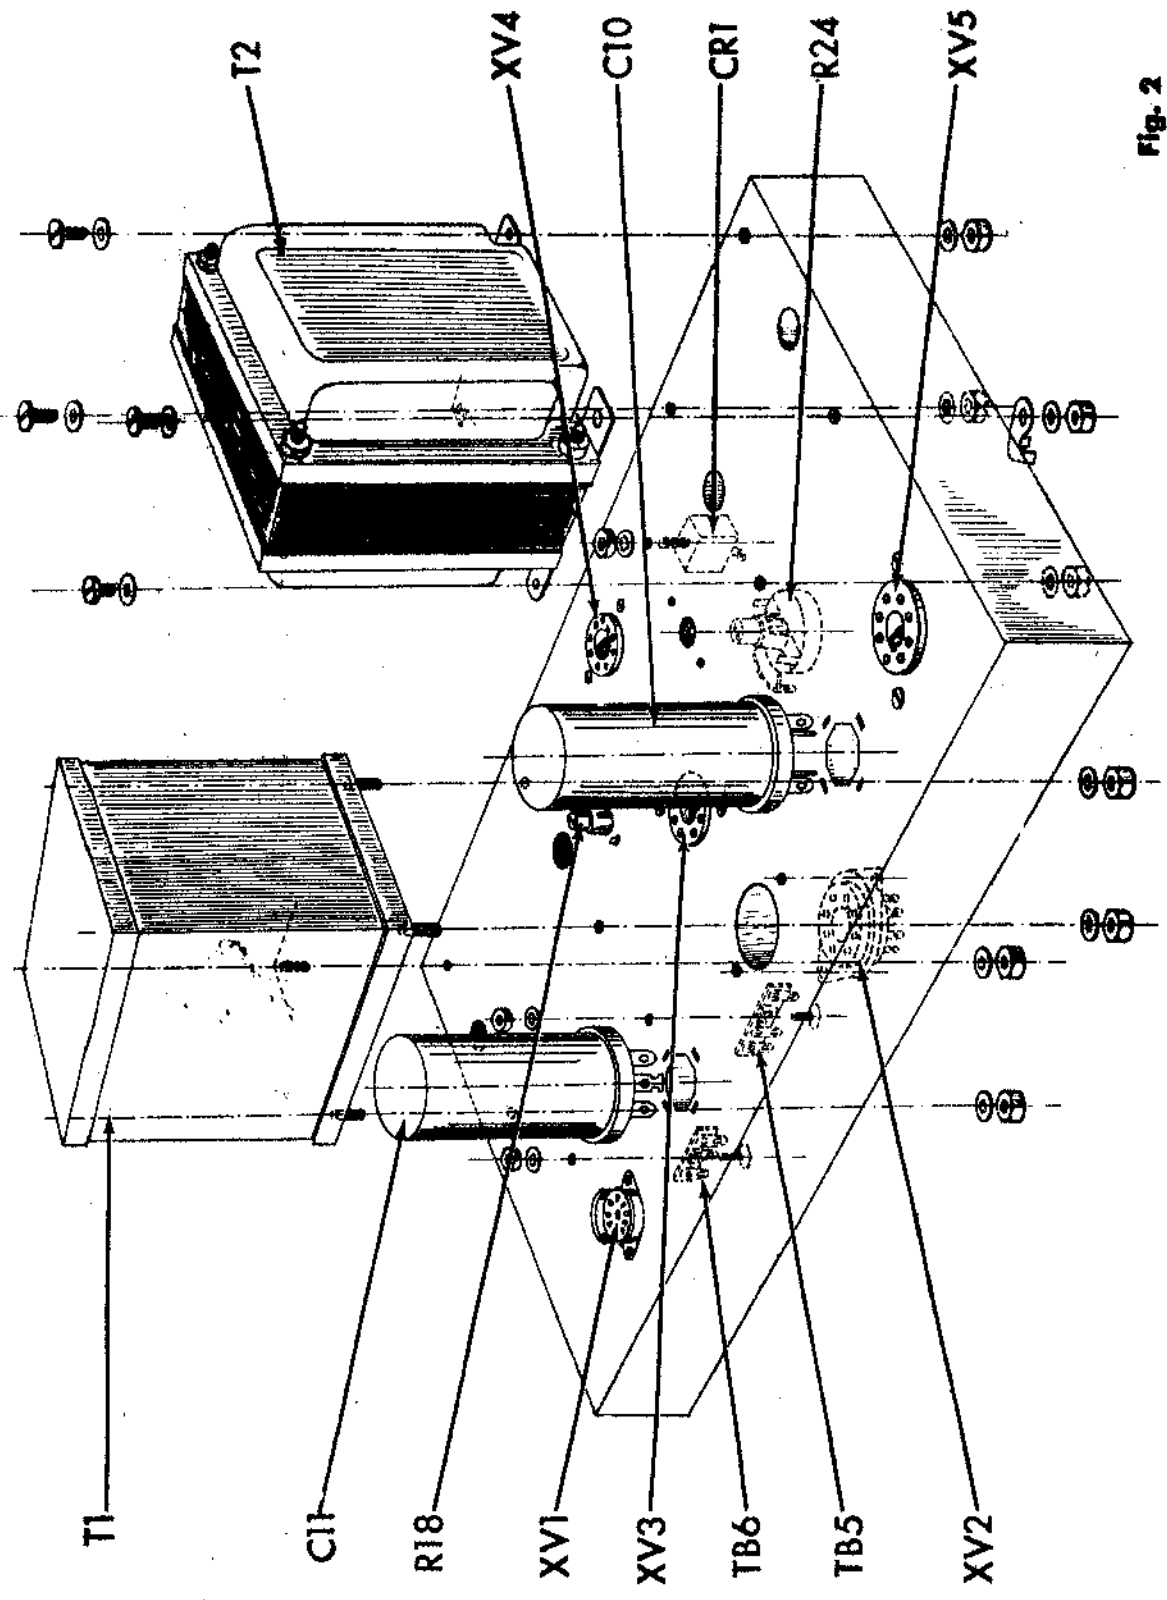
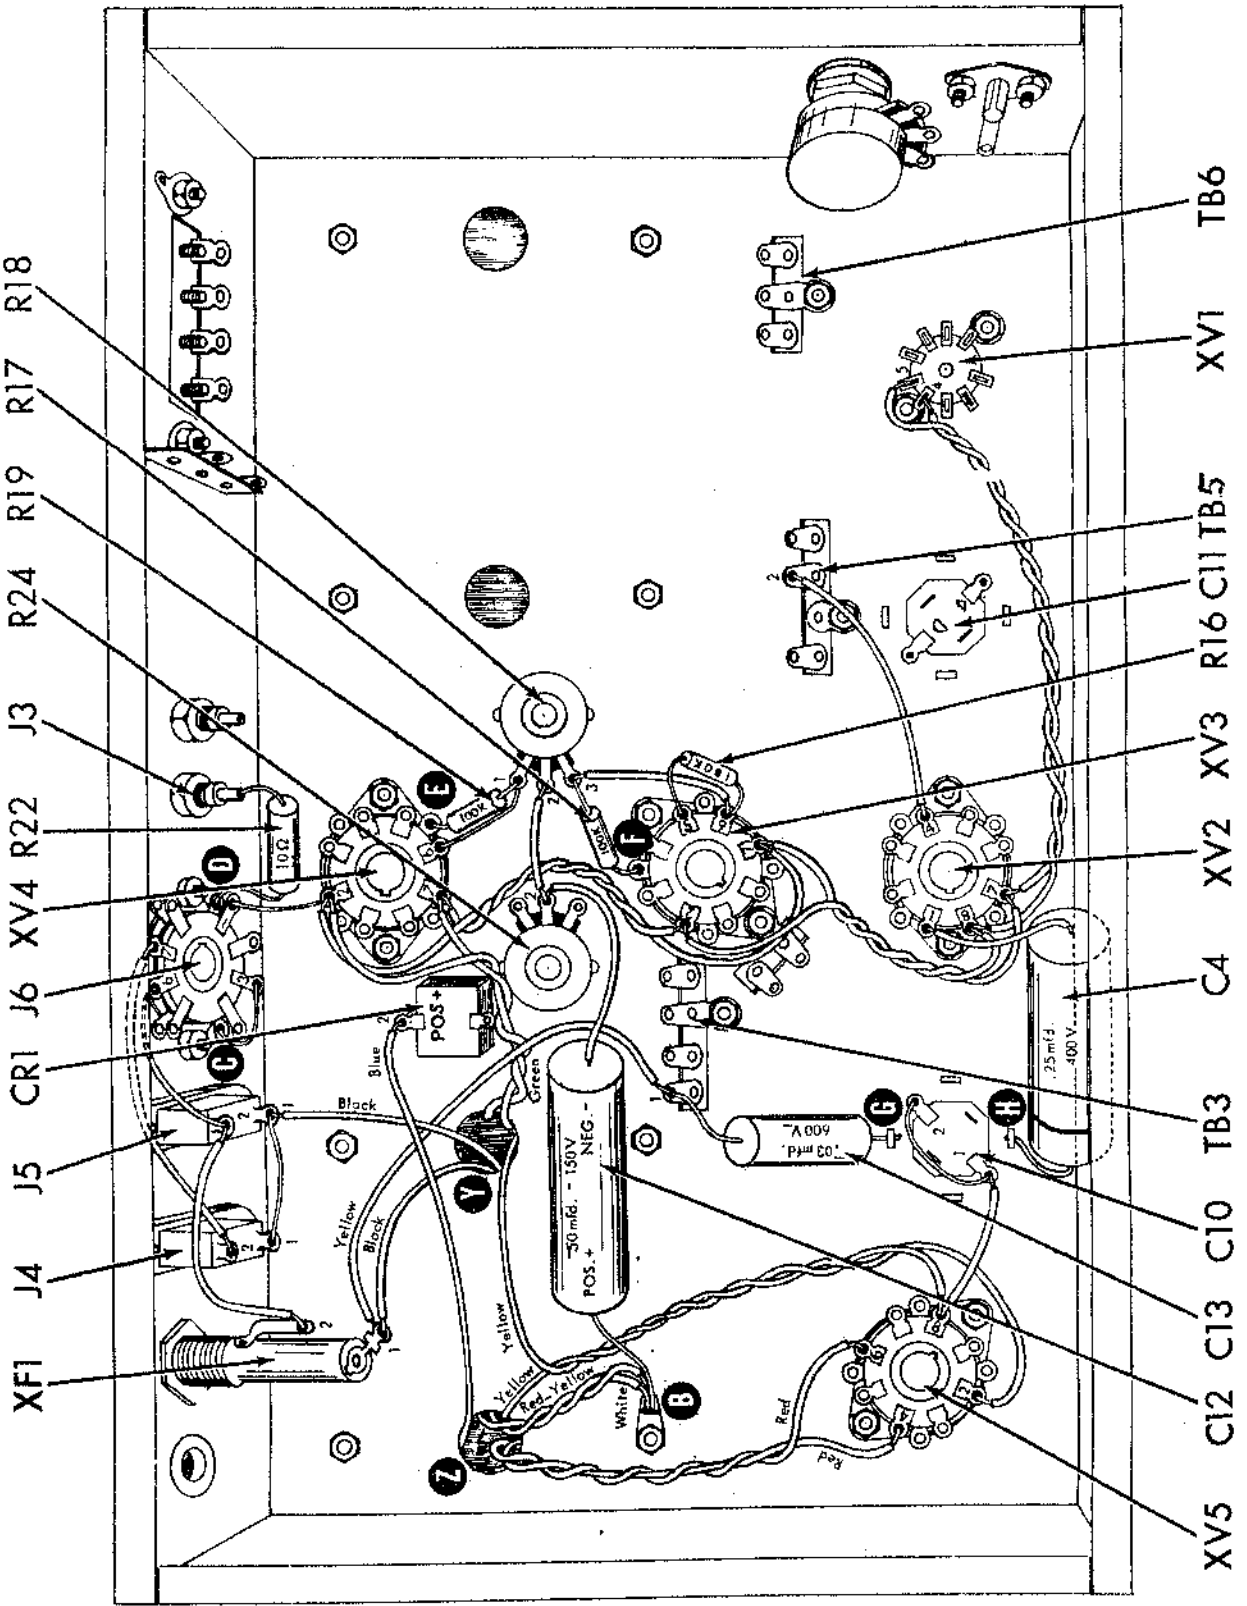
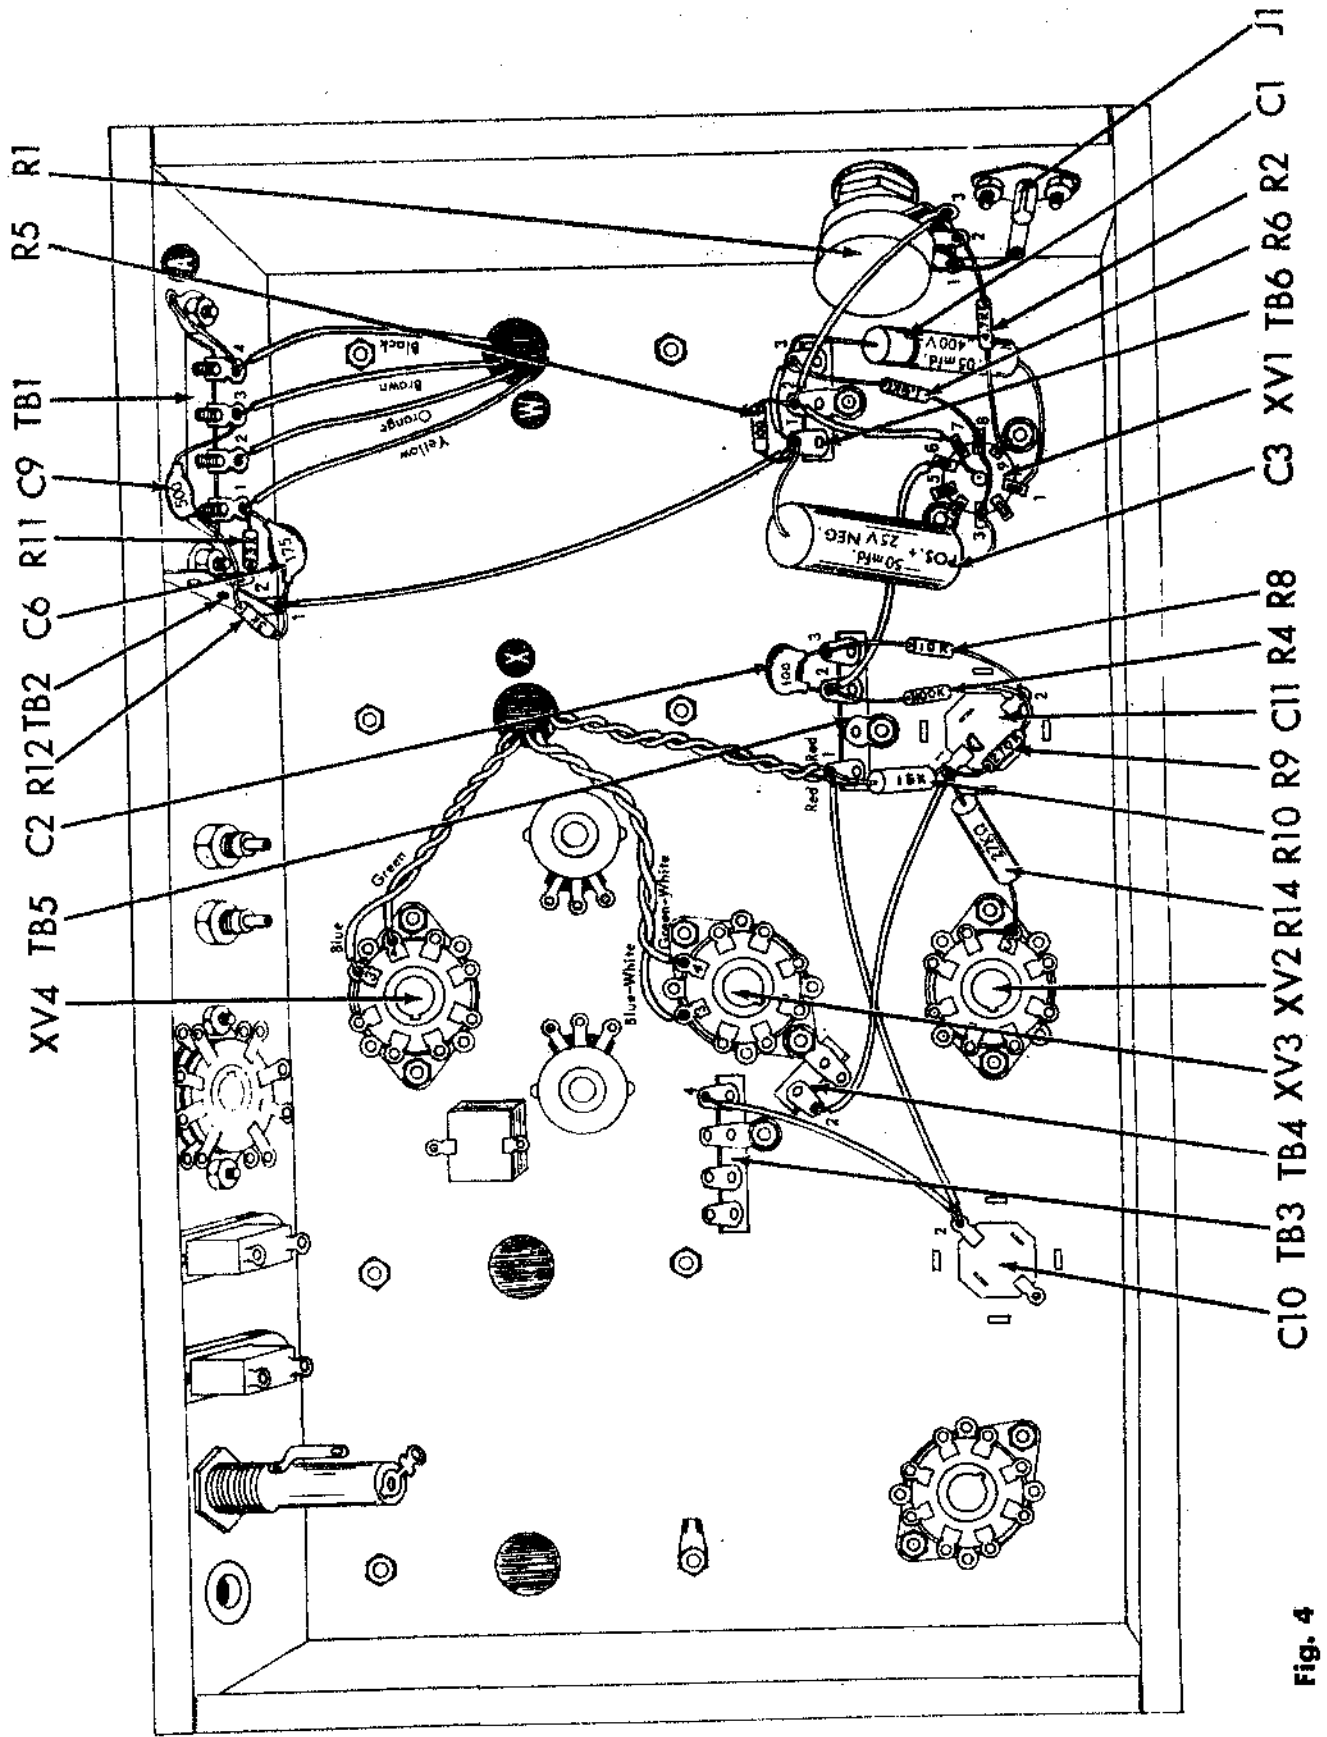

Fig. 2
Fig. 3
Fig. 4
1. ( ) Fig. 2, side C & Fig. 3. Mount the large octal sockets, XV2 to XV5, inserting them from the inside of the chassis. Refer to figure 3 for the proper orientation of the keyway of each socket. Please note that a one post right terminal strip with ground post is mounted on socket, XV3. Mount each socket using two each of the following: #6-32 X 1/4 screws, #6 hex nuts and #6 lockwashers.
2. ( ) Fig. 2, side C & Fig. 3. Mount the 9 pin miniature socket, XV1. See Fig. 3 for proper orientation of keyway (missing pin). Use two each of the following: #4-40 X 1/4 screws, #4 lockwashers and #4 hex nuts.
3. ( ) Fig. 2, side C & Fig. 3. Mount the 50ma rectifier, CR1, on the inside of the chassis near socket, XV4. See Fig. 3 for proper location. Please note that CR1 should be oriented so that the positive (+) side is located as shown. Use one #6 hex nut and one #6 lockwasher for mounting.
4. ( ) Fig. 2, side C & Fig. 3. Mount the two post terminal strip with center ground post, TB6, as shown on Fig. 3. Use one each #6-32 X 1/4 screw, #6 hex nut, #6 lockwasher.
5. ( ) Fig. 2, side C & Fig. 3. In a similar manner, mount the two post right, 1 post left terminal strip, TB5.
6. ( ) Fig. 2, side C & Fig. 3. Likewise, mount the two post left, 1 post right terminal strip with a ground post, TB3.
7. ( ) Fig. 2, side C & Fig. 4. Mount the output transformer, T1. Orient the transformer so that the proper colored leads emerge from holes "Y" and "W" on Fig. 3. Use four #10-32 hex nuts and four #10 lockwashers.
8. ( ) Fig. 2, side C & Fig. 3. Mount the power transformer, T2. Orient the transformer so that the proper colored leads emerge from holes "Y" and "Z" on Fig. 3. Please note that ground lug "B" is mounted with the transformer. Use four each of the following: #10-32 X 3/8 screws, #10 flat washers, #10 lockwashers and #10 hex nuts and the large ground lug.
9. ( ) Fig. 2, side C & Fig. 3. Mount the dual 20mfd capacitors, C10 and C11, on the top side of the chassis. Please note the position of the capacitor terminals on Fig. 3 before you secure it in place. The mounting tabs are inserted into the slots provided on the chassis and twisted somewhat less than a quarter turn. DO NOT twist the tabs excessively or they will shear off. Solder one mounting tab on each capacitor to chassis ground.
10. ( ) Fig. 2, side C & Fig. 3. Mount the 10KΩ pot., R24, stock # 18015 (BIAS ADJ.) on the bottom side of the chassis. This pot is located near rectifier, CR1 and has its lugs pointing away from same, see Fig. 3. Position pot and press firmly toward chassis until a click is heard.
11. ( ) Fig. 2, side C & Fig. 3. In a similar manner mount the 50KΩ pot., R18, stock # 18029 (BALANCED ADJ.).
1. ( ) Fig. 3. Cut an 8" length of black wire and an 8" length of brown wire. Connect one end of the black wire to XV1-4 (S) and one end of the brown lead to XV1-5 (S). Twist the two leads and run along the chassis as shown. Connect the other end of the black lead to XV2-7 (C) and the other end of the brown lead to XV2-8 (C).
2. ( ) Fig. 3. Following the above procedure, cut a 4" length of black wire and a 4 1/2" length of brown wire. Connect one end of the black wire to XV2-7 (S) and one end of the brown wire to XV2-8 (S). Twist the two leads and run along the chassis as shown. Connect the other end of the black lead to XV3-7 (C) and the other end of the brown lead to XV3-2 (C).
3. ( ) Fig. 3. Following the above procedure, cut a 5" length of black wire and a 5" length of brown wire. Connect one end of the black wire to XV3-7 (S) and one end of the brown wire to XV3-2 (S). Twist the two leads and run along the chassis as shown. Connect the other end of the black lead to XV4-7 (C) and the other end of the brown lead to XV4-2 (C).
4. ( ) Fig. 3. Connect a 1" piece of bare wire from XV4-2 (C) to J6-1 (S).
5. ( ) Fig. 3. Connect a 5" piece of yellow wire from TB3-1 (C) to XF1-1 (C).
6. ( ) Fig. 3. Cut one green lead from hole "Y" to 4" and the other green lead from hole "Y" to 4 1/2". Twist the leads. Connect the 4" lead to XV4-7 (C) and the 4 1/2" lead to XV4-2 (S).
7. ( ) Fig. 3. Cut one black lead from hole "Y" to 3" and the other black lead from hole "Y" to 5 1/2". Connect the 3" lead to J5-1 (C) and the 5 1/2" lead to XF1-1 (S). Cut shorter lead to 3".
8. ( ) Fig. 3. Cut the yellow lead from hole "Y" to 10" and the yellow lead from hole "Z" to 6". Twist leads as shown. Connect the 10" lead to XV5-2 (S) and the 6" lead to XV5-8 (C).
9. ( ) Fig. 3. Cut the blue lead from hole "Z" to 6". Connect to CR1-2 (S).
10. ( ) Fig. 3. Cut both the red-yellow and the white lead from hole "Z" to 3". Connect both to ground lug "B" (C) Twist leads.
11. ( ) Fig. 3. Cut the two red leads from hole Z to 5 1/2". Twist leads as shown. Connect one lead to XV5-4 (S) and the other lead to XV5-6 (S).
12. ( ) Fig. 3. Connect a 4" yellow lead from XF1-2 (S) to J5-2 (C).
13. ( ) Fig. 3. Connect a 1 1/2" piece of bare wire from J5-2 (S) to J6-6 (S).
14. ( ) Fig. 3. Connect a 3 1/2" yellow lead from J4-2 (C) to J6-7 (S).
15. ( ) Fig. 3. Connect a 2" piece of bare wire from J4-1 (C) to J5-1 (S).
16. ( ) Fig. 3. Connect a 1" piece of bare wire from J6-3 (S) to ground lug "C" (S) on J6.
17. ( ) Fig. 3. Connect a 10Ω, 1% resistor, R22, from J3 (C) to ground lug "D" (S) on J6. Both leads of the resistor should be cut to 3/4".
18. ( ) Fig. 3. Connect a 100KΩ (brown, black, yellow, gold) 5% resistor, R19, from R18-1 (C) to ground lug "E" (S) on XV4. Cut both leads to 1 1/2".
19. ( ) Fig. 3. Connect a 1 1/2" bare lead from R18-1 (S) to XV4-6 (C).